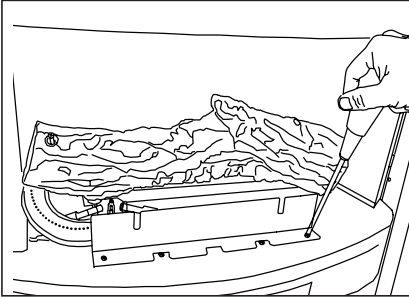

Figure 31a - Log Bracket and Control Panel
15. Remove screws securing front log bracket and control panel (see Figure 31a).